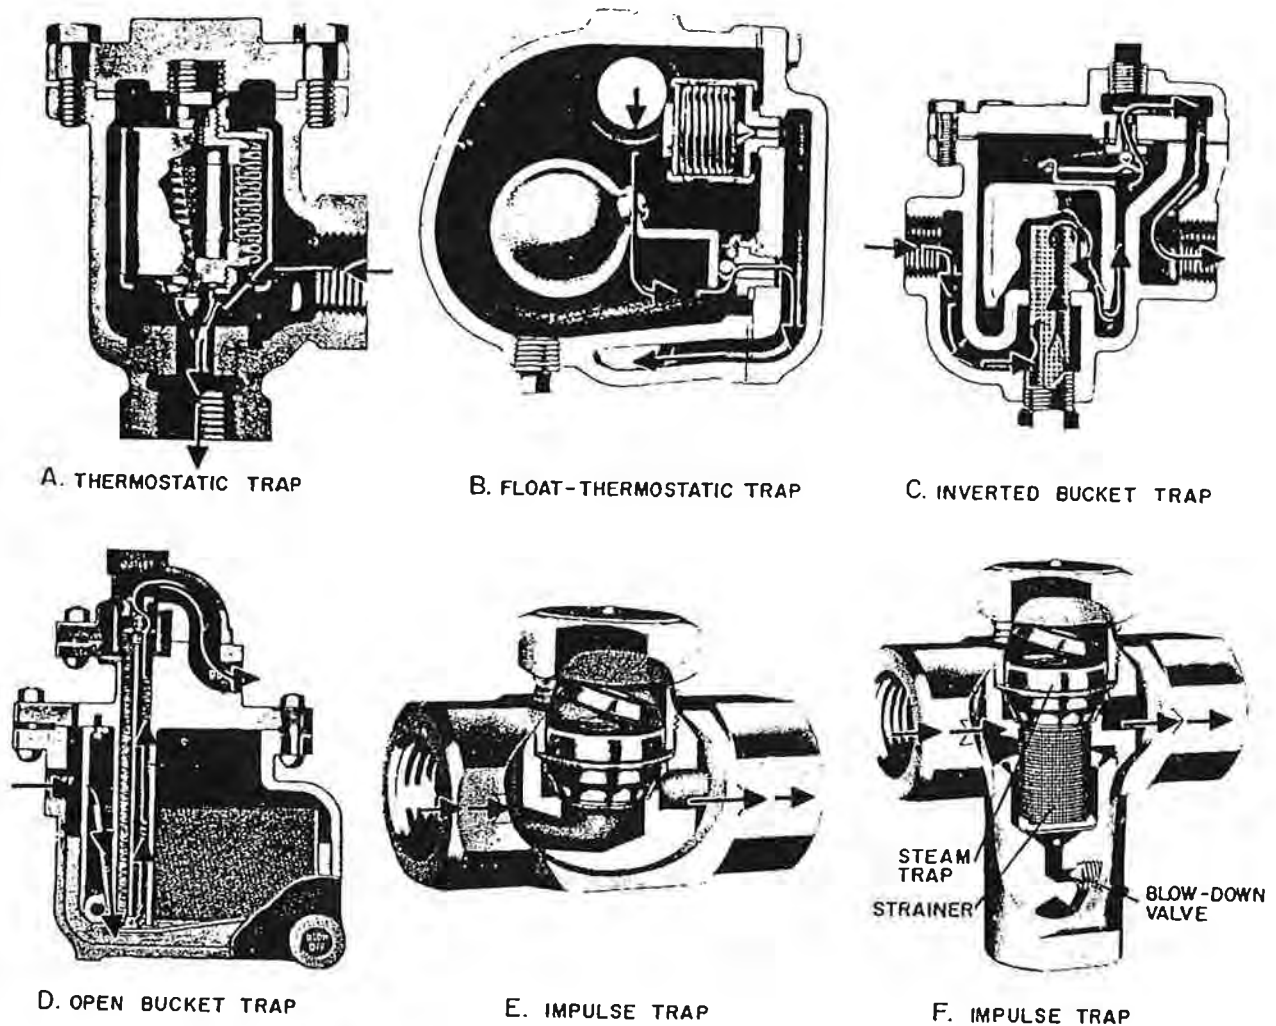

Fig. 9-8. Common steam traps.
9.32 Two general types of traps are THERMOSTATIC and MECHANICAL. Anything described as thermostatic is responsive to temperature. See Fig. 9-8(A). When temperature and pressure are normal, the thermostatic element expands downward to close the opening of the outlet pipe. When either the temperature or the pressure drops, the thermostatic element contracts, opening the way to the outlet pipe, through which condensate and air escape. The trap is designed to operate at a definite temperature drop — a certain number of degrees drop below the saturated temperature for the existing steam pressure.
9.33 MECHANICAL STEAM TRAPS include these types: FLOAT-and-THERMOSTATIC; FLOAT; INVERTED BUCKET; and UPRIGHT BUCKET. The float-and-thermostatic trap is shown in Fig. 9-8(B). Condensate water in a steam trap
9.36 A float trap is designed for applications where there is no problem of air in the system. It handles condensate only. It looks like the trap shown in Fig. 9-8(B), but without the thermostatic element.
9.37 An inverted bucket trap is shown in Fig. 9-8(C). Instead of a float, as in the designs just described, this trap has an inverted (upside down) bucket mechanically linked to the outlet port. The bucket is supplied with a small vent hole. During operation, a small portion of condensate remains around the bottom of the bucket and forms a seal. Live steam and condensate entering the trap raises the bucket, closing the valve. Steam leaking through the vent allows the bucket to drop, opening the valve and permitting condensate to leave the trap.
9.39 An UPRIGHT or OPEN BUCKET trap shown in Fig. 9-8(D) is used for applications where there are slight or small variations of load or pressure. Condensate enters the trap on the inlet side, and fills the space surrounding the bucket. It finally rises so high that it overflows into the bucket, sinking it. The discharge port opens and steam pressure then forces the condensate out of the trap and the operating cycle is repeated.
part—a disc. Hot condensate and steam form pressure in the trap, thereby closing the valve. As soon as the steam cools back into condensate, the trap opens to discharge the water. As additional hot condensate and steam increase the temperature, the cycle is repeated. Figure 9-8(F) shows an impulse trap equipped with an integral or built-in strainer and a blowdown connection.